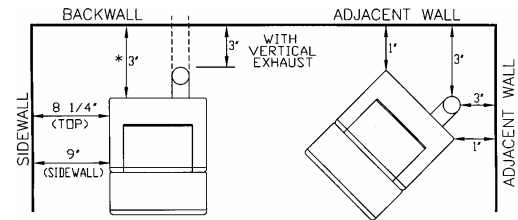

FIGURE 1
1. Position stove, adhering to clearances shown in Figures 1 & 2.
5. Position the stove, adhering to the clearances in Figures 1 & 2.
1. Position the stove, adhering to the clearances in Figures 1 & 2. Mark the center of the hole where the pipe is to pierce the masonry chimney.